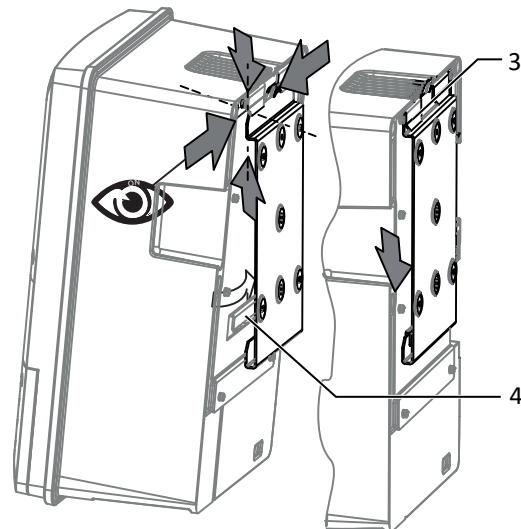

Fig. 15: Mounting the device
2. Fit the device onto the upper mount by means of the mounting bracket. Fit the device onto the lower mounting bracket in full so that the device sits flush with its rear side on the mount. [See figure 15 [▶ Page 19]